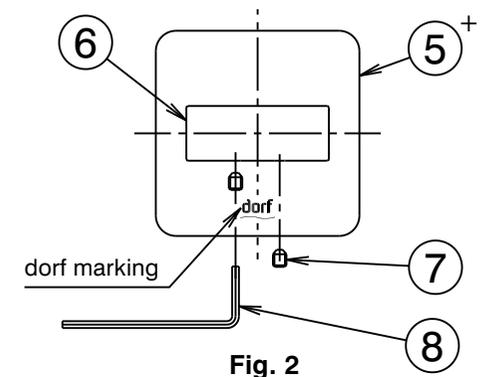

Fig. 2
- 3) Apply a suitable clear sealant to the back edge of the cover plate (5⁺), leaving an unsealed section at the bottom for drainage. Carefully place the hole in the cover plate (5⁺) over the spigot of retainer (2) then push the cover plate against the wall/tile face & position with the 'dorf' marking as shown in Fig.2. Fit wall bath outlet (6) onto spigot of retainer (2), taking care that 'O'Rings are not damaged as they enter bore of outlet, then push it firmly against the cover plate (5⁺) while tightening grub screws (7) using the 2.00mm allen key (8) provided. Take care that the top face of the bath outlet is horizontal before tightening screws (7). Wipe clean any excess sealant from the chrome surfaces & the wall/tile face.